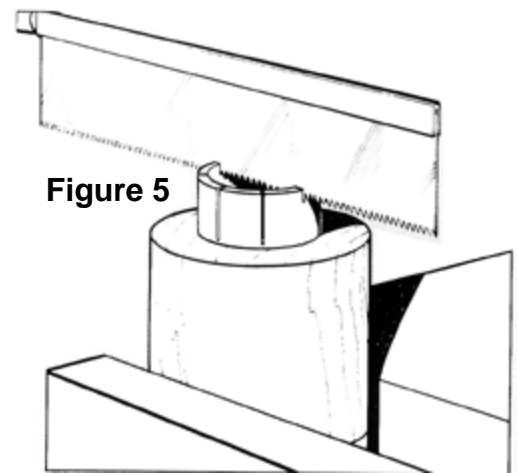

Figure 5
20. Use a backsaw and, being sure to stay straight up and down, make a cut down each mark to the shoulder of your chuck, creating flexible fingers (**Figure 5**).